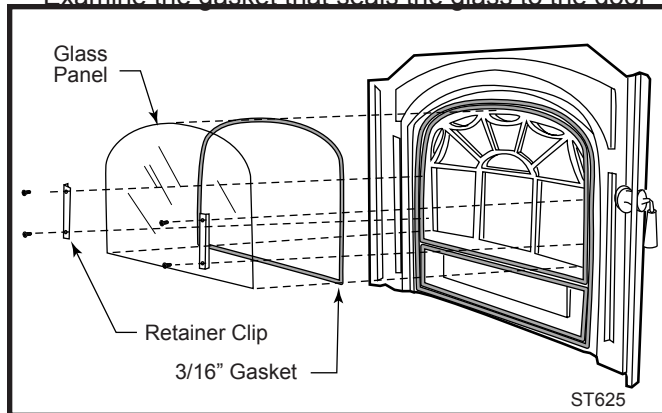

Fig. 22 Glass replacement.
- Open the door and carefully remove the glass by removing the two (2) clips (one per side) that hold the glass panel against the gasket in the arched door opening. Each clip is held in place with two (2) Phillips truss-head machine screws. (Fig. 22)